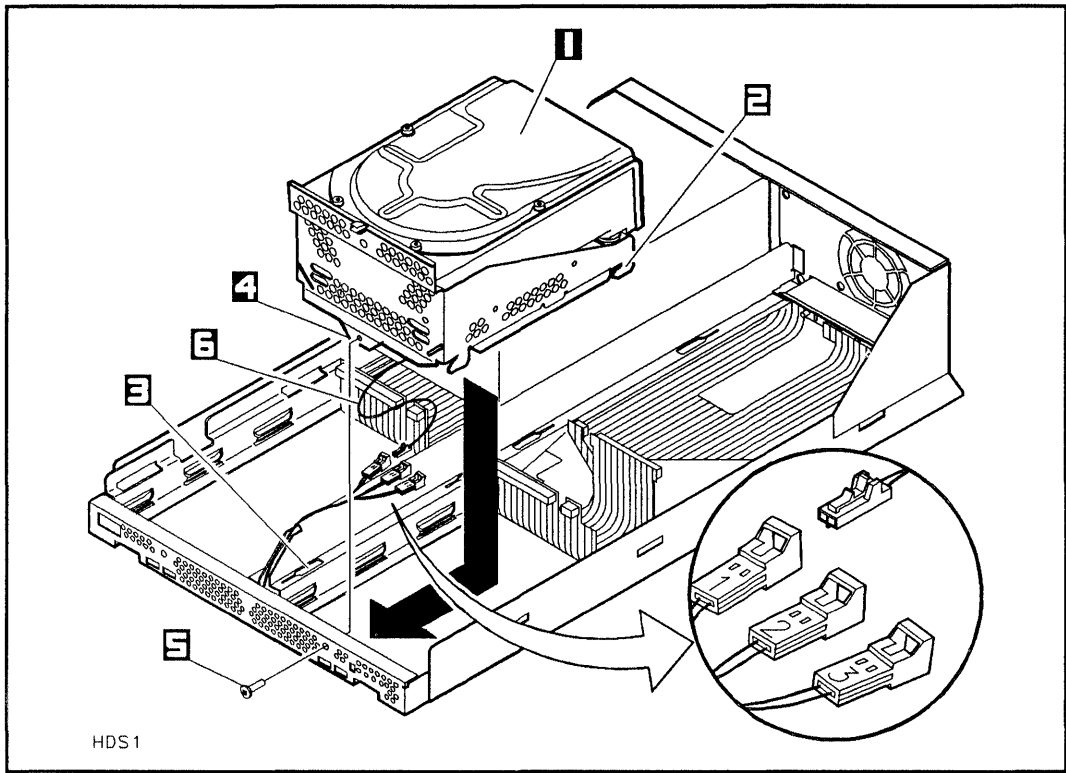
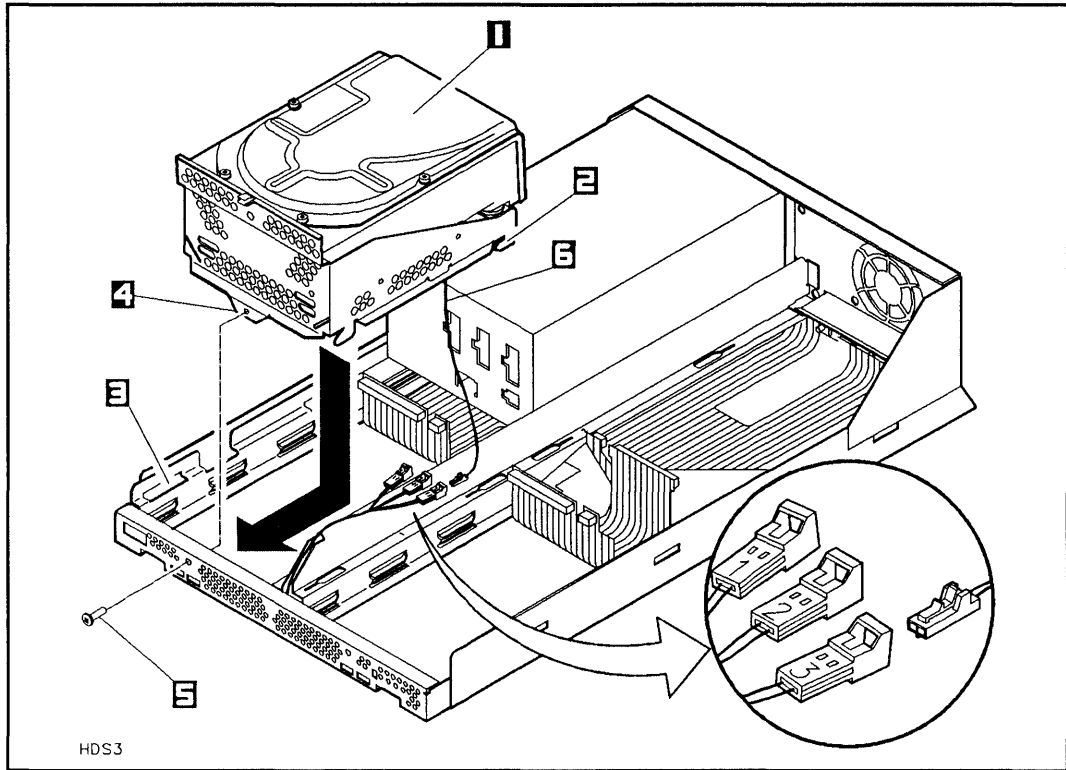

Figure 2-6. Installing the Hard Disk Drive into Slot 1
Figure 2-8. Installing the Hard Disk Drive into Slot 3
1. If you are installing a hard disk drive into slot 1 or slot 3, push down on the hard disk drive and slide it on the chassis rails toward the front of the mass storage system chassis until the mounting tabs lock into the mounting slots and the hard disk drive stops against the front of the chassis (see Figure 2-6 or Figure 2-8).
2. If you are removing a hard disk drive from slot 1 or slot 3, remove the T25 screw from the hole in the front of the mass storage system chassis (see Figure 2-6 or Figure 2-8).